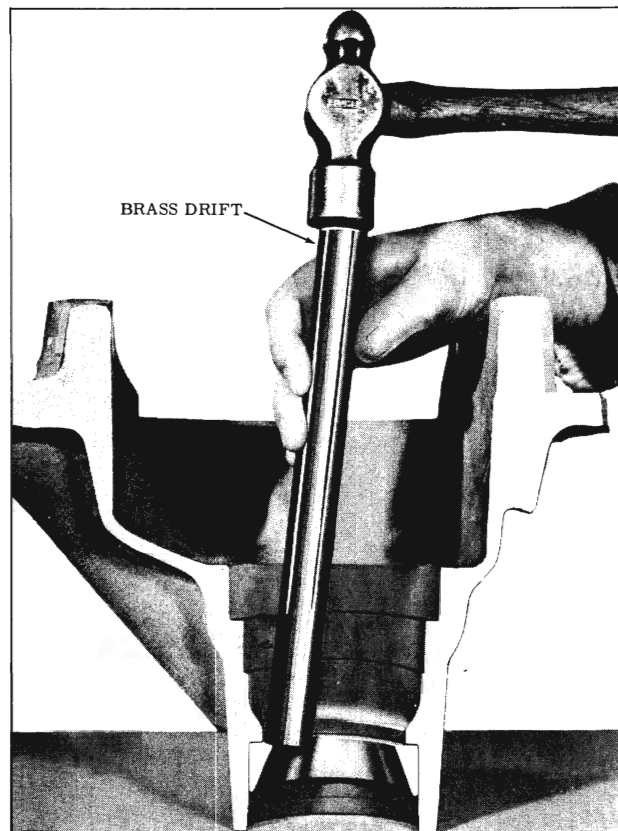

Fig. 6-24 Removing Front Bearing Outer Race
9. Drive the front bearing outer race from carrier. (Fig. 6-24)